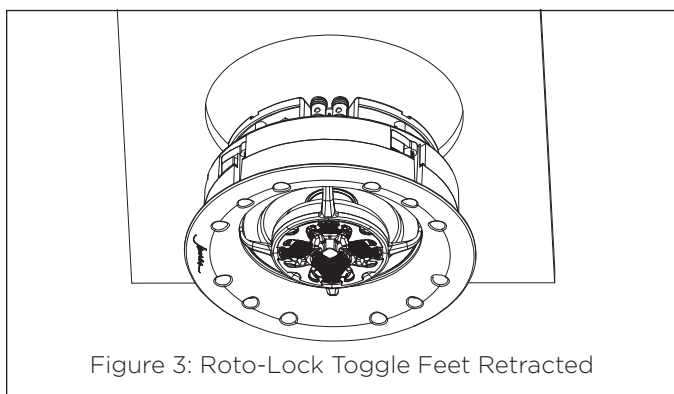

Figure 3: Roto-Lock Toggle Feet Retracted
9. Make sure all Roto-Lock toggle feet are retracted so that they are tucked within the frame (see Figure 3).